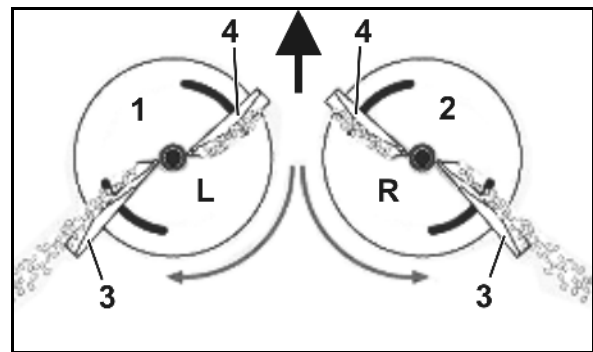

Fig. 28
- Left spreading disc (Fig. 28/1) with **L** mark.
- Right spreading disc (Fig. 28/2) with **R** mark.
- **Long** (Fig. 28/3) - Adjustment scale with values from 35 to 55.
- **Short** (Fig. 28/4) - Adjustment scale with values from 5 to 28.